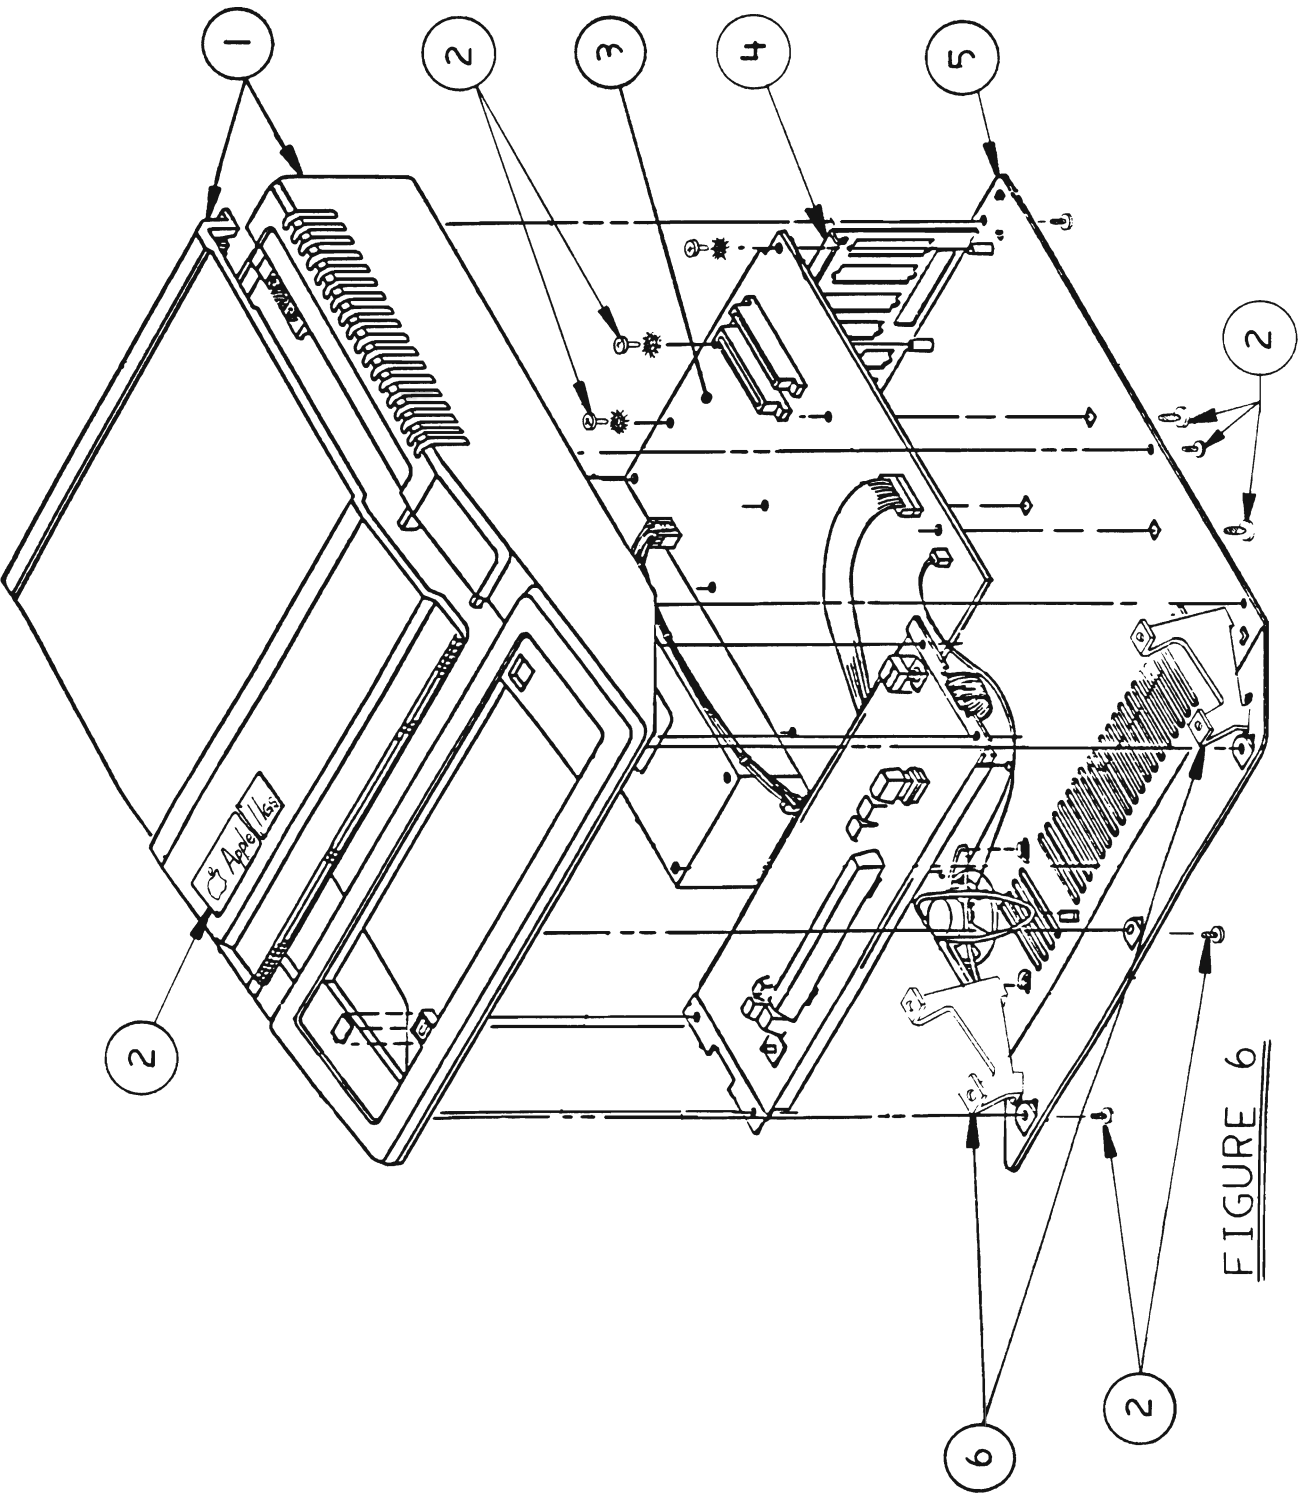

FIGURE 6
□ APPLE IIGS —UPGRADE (Figure 6)